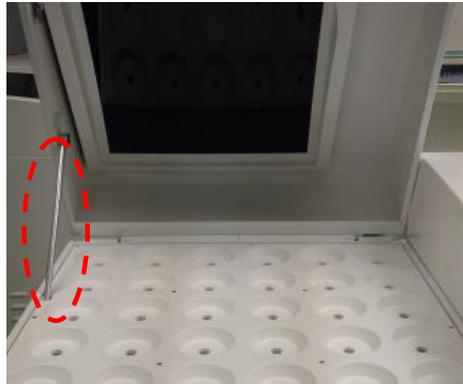
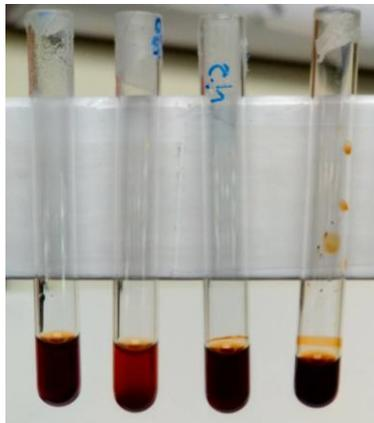

Figure 3a
Figure 4 From Left to right: Calibrator (normal), precipitated (abnormal), evaporated (abnormal)
6. Open the cover of the XacPro-S machine on the left side (shown in Figure1) and hold the stand (red dash circle shown in Figure 3a. Caution!! Notice to fix the stand well to prevent the cover from falling to damage the operator !!). Remove the sample testing tubes that have been measured from all the 36 wells if the previous testing sample are still in the wells. Please check the quality and volume of Calibrator. Please refer to Figure 4. If the appearance of the previous prepared Calibrator looks abnormal, please replace it by freshly-prepared Calibrator. Homogenize the Calibrators by vortexing for about 3 seconds. Place them in 2 ml Eppendorf without lid and then spin down by micro centrifuge for about 3 seconds. Then place the Calibrators into 36 wells and close the cover. (The F3 channel is Calibration Channel for SQUID Offset adjustment and a Calibrator\*\* with testing sample tube must be placed during any measurement.)